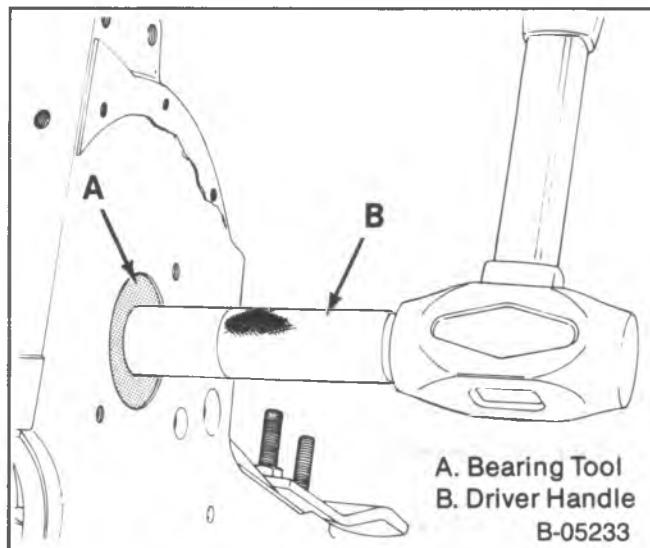

Figure 30—Removing or Installing Camshaft Bearings
CAMSHAFT BEARINGS**Remove or Disconnect (Figure 30)**
2. Front and rear bearings (109) using J-33049.
**Install or Connect (Figure 30)**